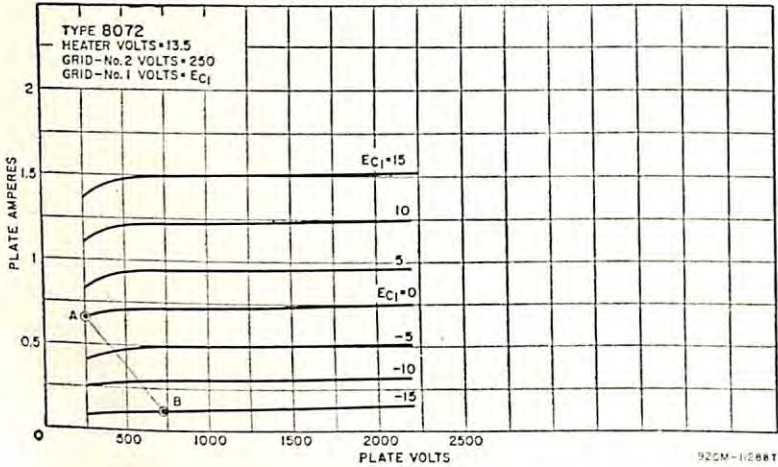
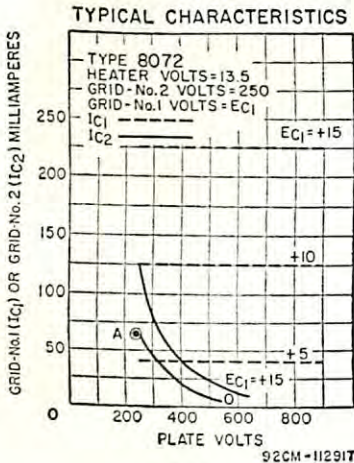

Fig. 46
Fig. 47
The operating conditions for a class AB₁ linear rf amplifier used in single-sideband service can be estimated from the load line plotted on a set of plate characteristics. The typical plate and grid-No.2 characteristic curves shown in Figs. 46 and 47 are used in the following
(3) Select a value of zero-signal plate current (I_{b0}) between 1/6 and 1/10 of I_{bmax} found in (2). Locate I_{b0} at selected E_b and construct a load line to the point found in (2). In general, the
(5) Determine the grid-No.1 bias (E_{c1}) from graph at the point of zero signal found in (3).
(6) DC plate current at peak of envelope (I_{b0}) is approximately equal to $I_{bmax}/3$.
(7) Average dc plate current (I_b) is equal to $I_{b0}/1.4$.
(8) Determine peak grid-No.2 current (I_{c2max}) from Fig. 47 at conditions in (2).
(9) DC grid-No.2 current at peak of envelope (I_{c2e}) is approximately equal to $I_{c2max}/4$.
(10) Average grid-No.2 current (I_{c2}) is approximately equal to $I_{c2e}/1.4$.
(11) Average grid-No.2 dissipation (P_{c2}) is approximately equal to $E_{c2} \times I_{c2}$.
(12) Peak Envelope Power input (P_{Ine}) is equal to $E_b \times I_{b0}$.
(13) Peak Envelope Power output (PEP) is equal to $(I_{bmax}/4) (E_b - E_{bmin})$.
(14) Average Plate Dissipation (P_p) is equal to $0.7 P_{Ine} - 0.5 PEP$.
(15) Average Power Output (P_o) is equal to $PEP/2$.
(16) Effective rf load resistance (R_p) is equal to $2(E_b - E_{bmin})/I_{b0}$.
(1) The plate voltage is selected to be 700 volts; grid-No.2 voltage, 250 volts.
(2) On Fig. 46 plot the maximum-signal point at knee of $E_{c1} = 0$ curve (point A). Read $I_{b_{max}} = 0.65$ ampere. Locate $E_{b_{min}}$ at 250 volts.
(4) On Fig. 46 plot the minimum-signal point at $E_b = 700$ volts and $I_{b_0} = 0.10$ ampere (point B).
(5) On Fig. 46 read E_{c1} at -15 volts at minimum-signal point B.
(6) Calculate: $I_{b_e} = I_{b_{max}}/3 = 0.650/3 = 0.22$ ampere.
(7) Calculate: $I_b = I_{b_e}/1.4 = 0.22/1.4 = 0.16$ ampere.
(8) On Fig. 47 locate point A at $E_b = 250$ volts and $E_{c1} > 0$ on grid-No.2 current curves. Read $I_{c_{2max}} = 0.065$ ampere.
(9) Calculate: $I_{c_{2e}} = I_{c_{2max}}/4 = 0.065/4 = 0.016$ ampere.
(10) Calculate: $I_{c_2} = I_{c_{2e}}/1.4 = 0.016/1.4 = 0.011$ ampere.
(11) Calculate: $P_{c_2} = E_{c_2} \times I_{c_2} = 250 \times 0.011 = 2.7$ watts. Verify that grid-No.2 dissipation is within rating.
(12) Calculate: $P_{I_{b_0}} = E_b I_{b_0} = 700 \times 0.22 = 154$ watts.
(13) Calculate: $PEP = (I_{b_{max}}/4)(E_b - E_{b_{min}}) = (0.650/4)(700 - 250) = 73$ watts.
(14) Calculate: $P_p = 0.7 P_{I_{b_0}} - 0.5 PEP = 0.7(154) - 0.5(73) = 71$ watts.
(15) Calculate: $P_o = PEP/2 = 73/2 = 36.5$ watts.
(16) Calculate: $R_p = 2(E_b - E_{b_{min}})/I_{b_{max}} = 2(700-250)/0.65 = 1384$ ohms.